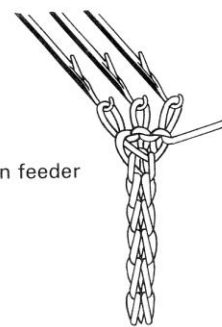

Fig.116
- c) Hold the loose end of the yarn with your left hand, and at the same time move the carriage across needles from right to left and return it to right. (Fig.116)